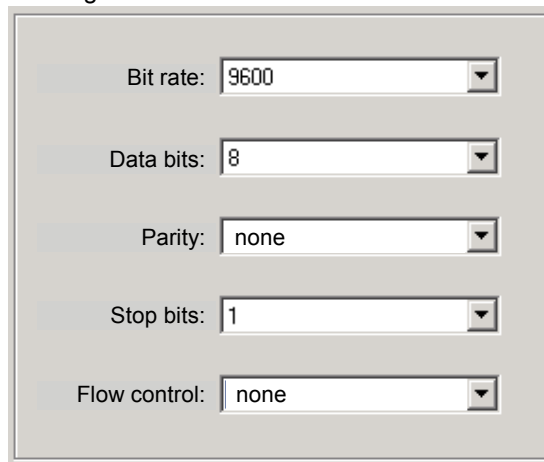

Figure 5.5 : Connection settings for RS485
4. Fill in the values like in Figure 5.5 and confirm with OK.